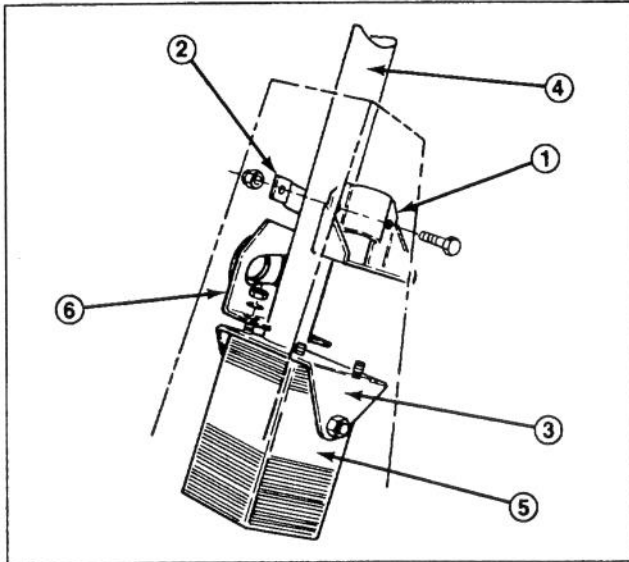
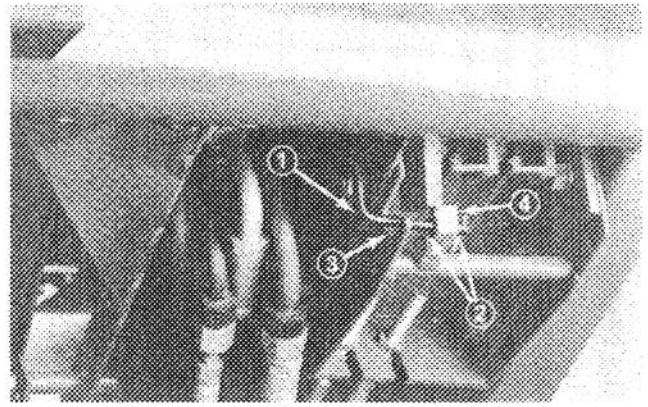

Figure 1
Figure 2
1. Remove capscrew securing column support to mounting bracket (Fig.1). Discard screw.
2. Loosen clamp half mounting screws securing column support to steering column (Fig.1).
3. Slide steering column upward until valve mounting studs are positioned into mounting bracket and pivot plate (Fig.1).
4. Secure valve to mounting bracket and pivot plate with (2) locknuts (5/16-18) and (2) flat washers (3/8 I.D. x 7/8 O.D.).
6. Secure valve to mounting bracket and column support with (2) locknuts (5/16-18) and (2) flat washers (3/8 I.D. x 7/8 O.D.).
7. Install cotter pin (3/32 x 1/2 in.—2.4 x 13 mm) through hole at top of parking brake rod. Install another cotter pin (3/32 x 1/2 in.—2.4 x 13 mm) through inside hole at L-shaped end of brake rod (Fig. 2).
9. Slide top of rod up the steering tower and bottom of rod between cutout in brake mount and through hole in parking brake latch (Fig. 2). Install cotter pin.